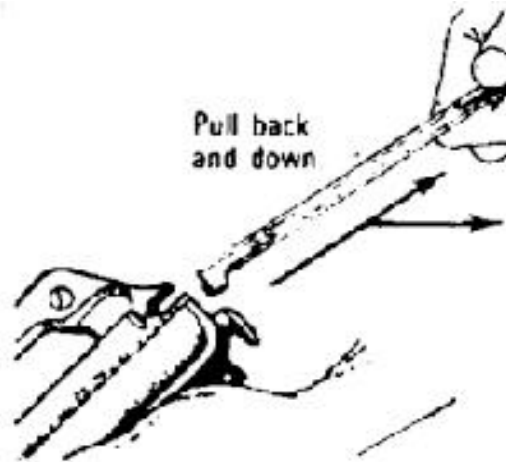

Figure E-11. Removing the charging handle.
- i. Remove the charging handle (figure E-11).